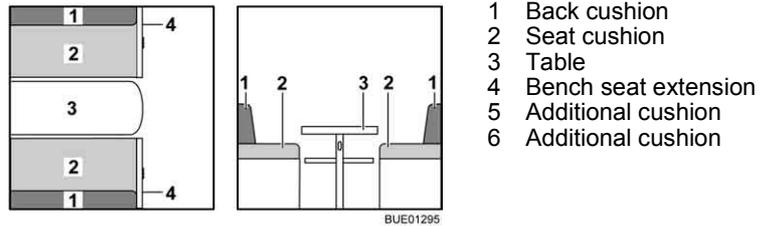

Fig. 122 Prior to conversion
- Extend the table (Fig. 122,3) and convert it into a bed foundation (see section 6.11).